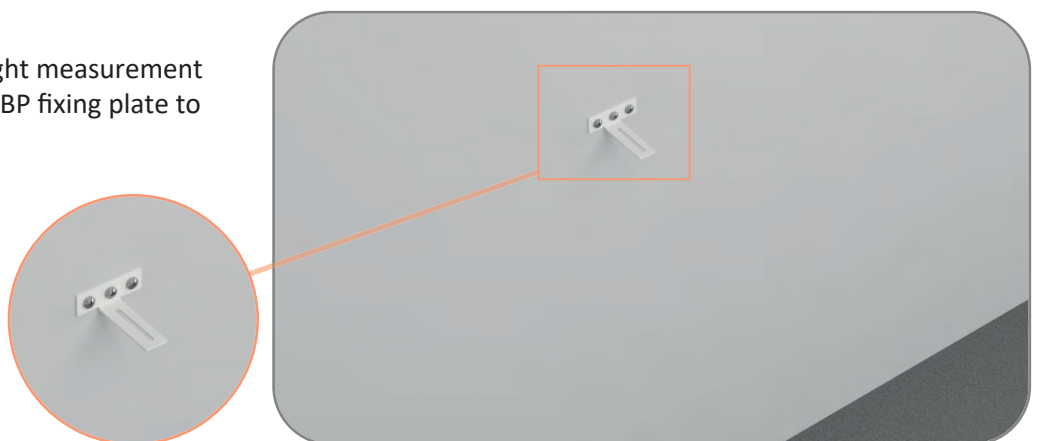

Figure 7.7
**STEP 7:** After determining the height measurement based on the battery, mount the LBP fixing plate to the wall using a drill. (Figure 7.7)